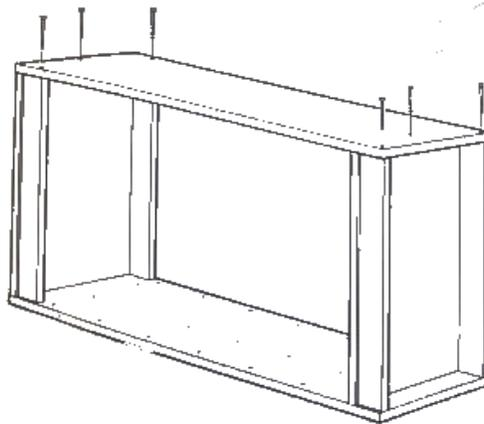

Figure 4 – Securing the second, long board
5. Take six (6) of the long flat-end screws and secure the second, long board as shown in Figure 4. You will use the L-shaped wrench to accomplish this step.